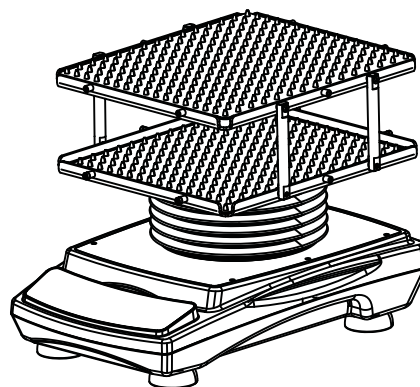

Figure 2
2. Place the two trays on to the cylinders at position A1 to A4 shown in the figure 2.